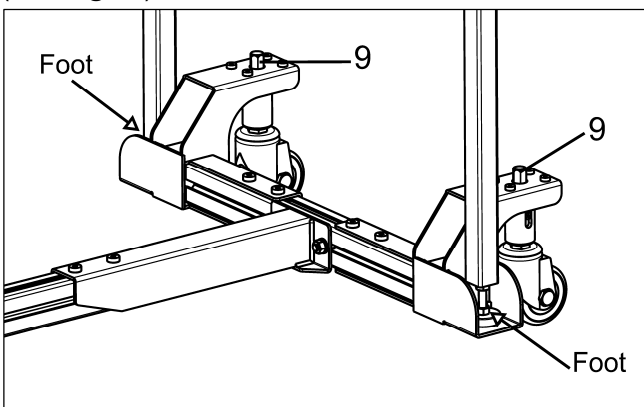

Fig. 24
e. Remove the wooden blocks, and adjust the height of the feet and wheels by rotating the regulating screw “9” clockwise to lift the wheels or counterclockwise to lower them. Ensure the extended tabletop is parallel to the main tabletop. (see Fig. 24)